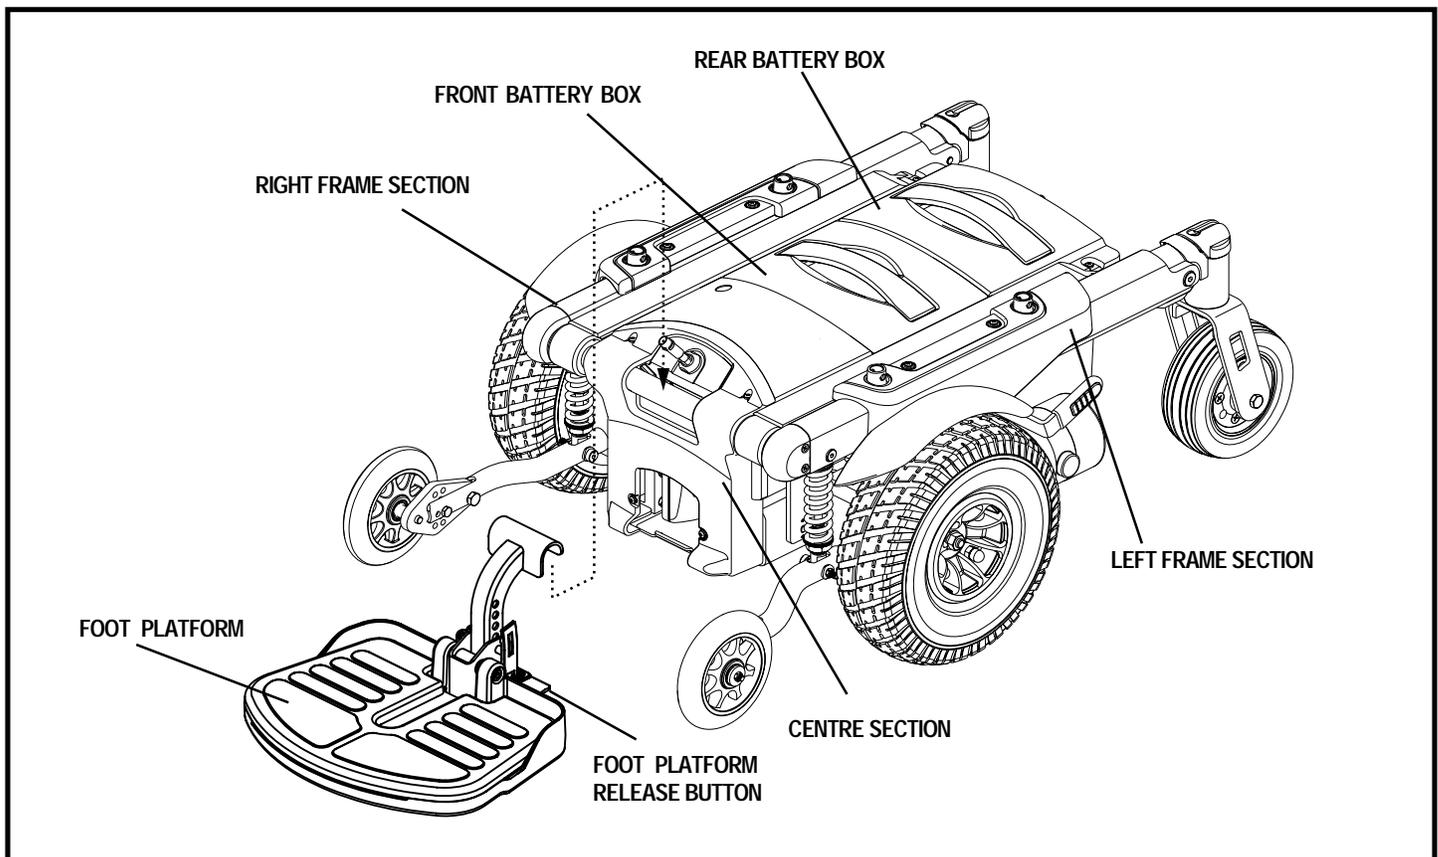
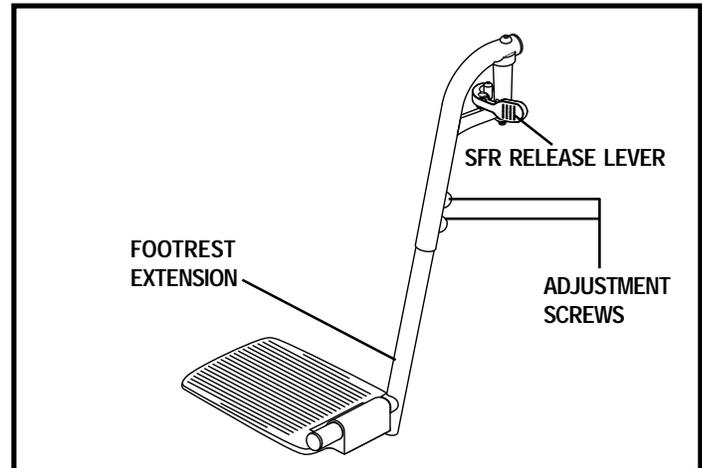

Figure 12. Quantum Dynamo 1107 Power Base Components
Figure 19. Swing-Away Footrests
The Quantum Dynamo 1107 power base disassembles into six parts for easy transportation and storage. See figure 12.
4. Press the foot platform release button and lift off the foot platform. See figure 12. See figures 19 and 20 for leg rest removal.
1. Push in the release lever. See figure 19.
1. Remove the two adjustment screws from the back of each footrest extension. See figure 19.